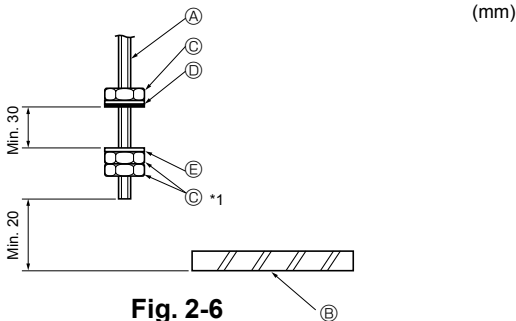

Fig. 2-6
2.4. Unit suspension procedures (Fig. 2-6)